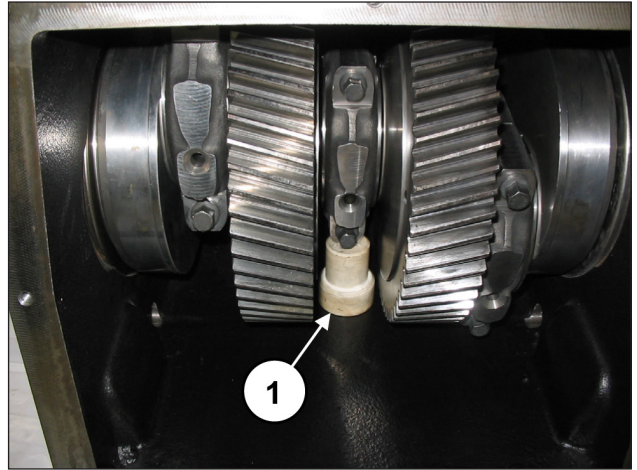

Fig. 13
Insert a shim under the shank of the central connecting rod, to stop the rotation of the bend shaft (pos. ①, Fig. 13).